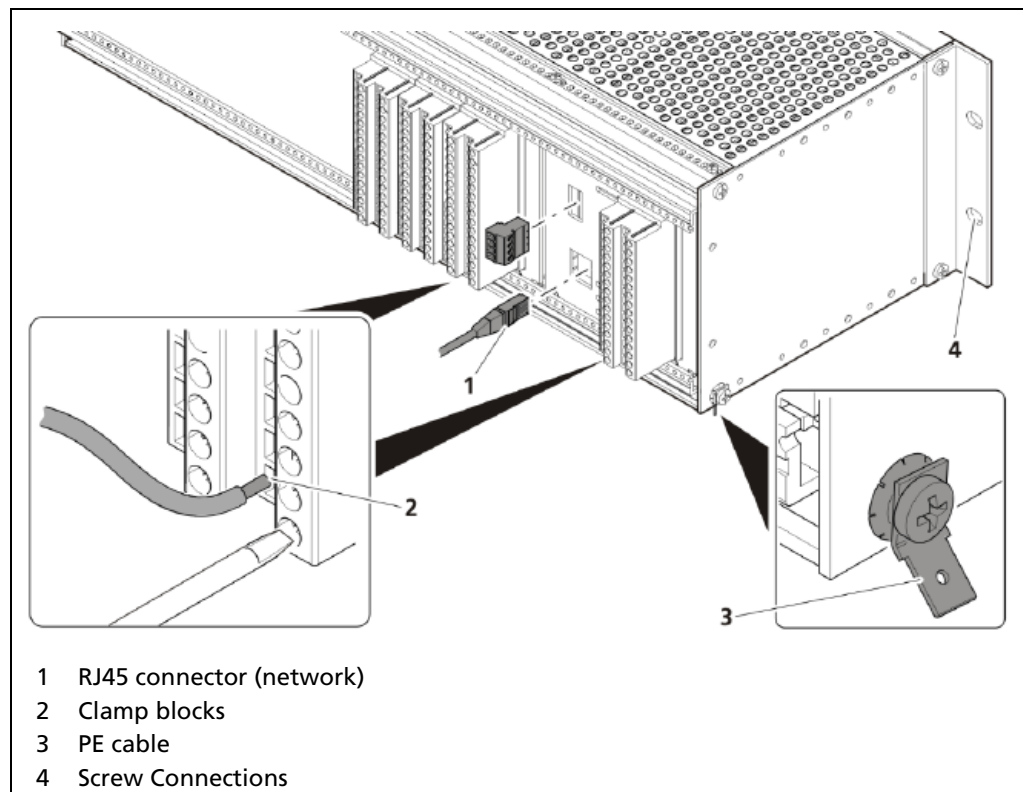

Fig. 136 Decommissioning 19" subrack
2. Remove the network plug (Fig. 136, item 1).
3. Remove all lines from the clamp blocks (Fig. 136, item 2).
4. Remove the PE cable (Fig. 136, item 4).
5. Remove the connections (Fig. 136, item 4) and pull the subrack from the 19" rack.